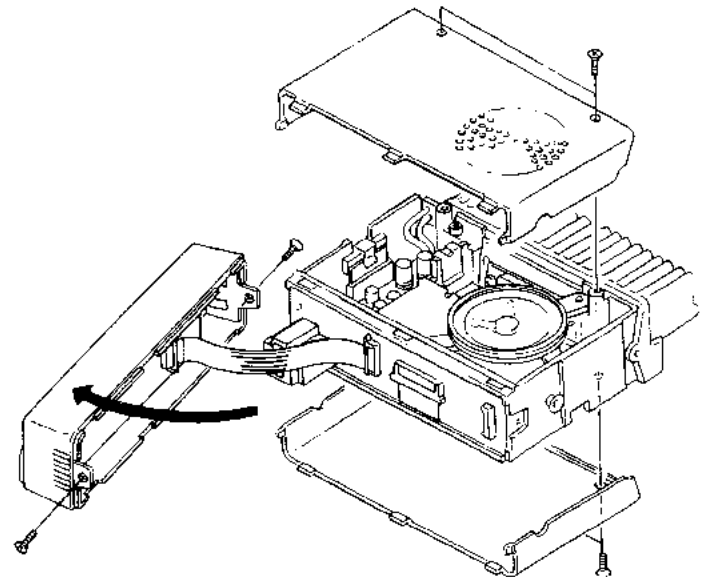

Fig. 2
1. Remove the two halves of the case transceiver and the control panel. (Fig. 2)